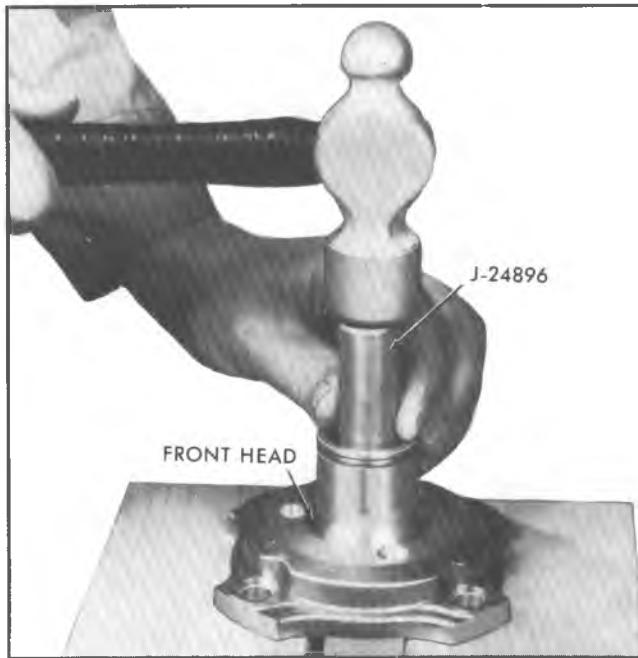

Fig. 88--Removing Main Bearing
2. Install a new thrust washer on compressor shaft with thrust washer tang pointing up (Fig. 88).
2. Place front head assembly on two blocks (Fig. 88) and using main bearing remover J-24896 drive bearing out of front head.